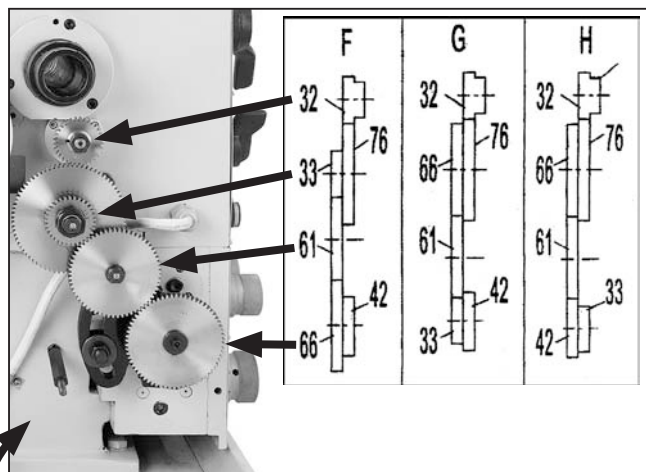

Figure 52. Change gear and chart relationship.
—"F" is the first letter in the sequence and indicates that the change gears must be rearranged in the "F" sequence as shown in **Figure 52**. The change gears are located on the left-hand side of the lathe, behind the headstock gear cover shown in.
- Leaving 0.003"–0.005" backlash between gear teeth, arrange the change gears to match the order under "F" (see **Figure 52**).